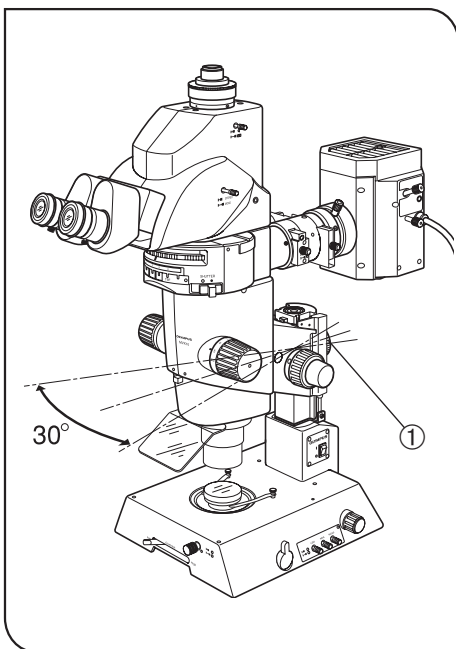

Fig. 1
3. To prevent the microscope body from turning over, its pivot angle must be limited to 30° and the tilt angle of the desk surface must be limited to 5° as shown in Fig.1.
5. To adjust the microscope body height, be sure to hold the focusing assembly with one hand and then loosen the focusing assembly clamping knob ①. (Fig. 1)